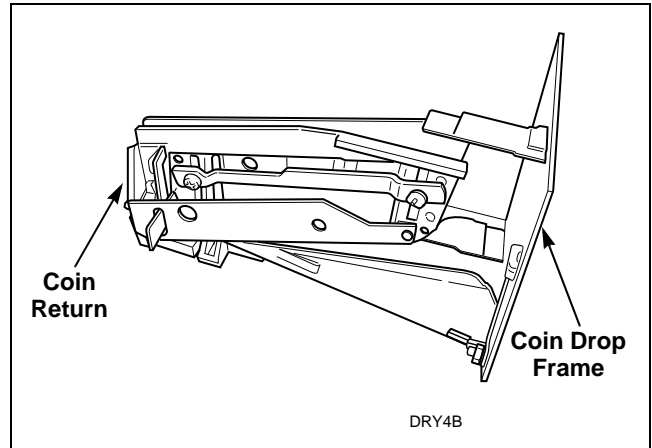

Figure 50
- Remove coin return from coin drop frame. Refer to *Figure 50*.